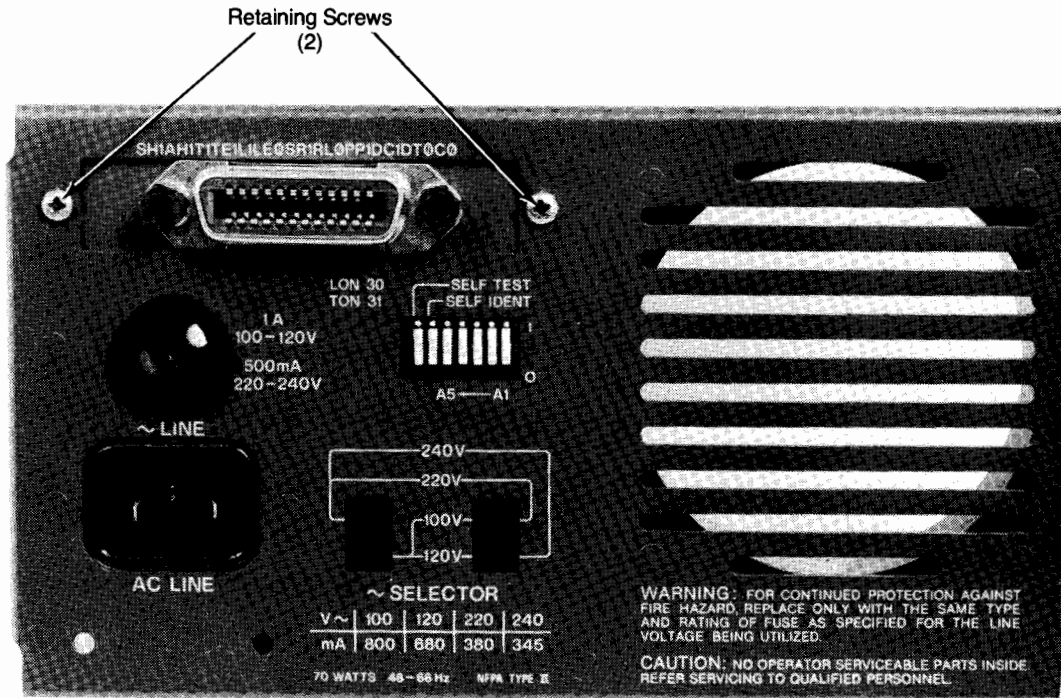

Figure 4-4: Select Code Switchboard Removal
The select code switchboard (A-40) can be removed by removing the two (2) retaining screws and by disconnecting the ribbon cable from the processor board as shown in Figure 4-4.